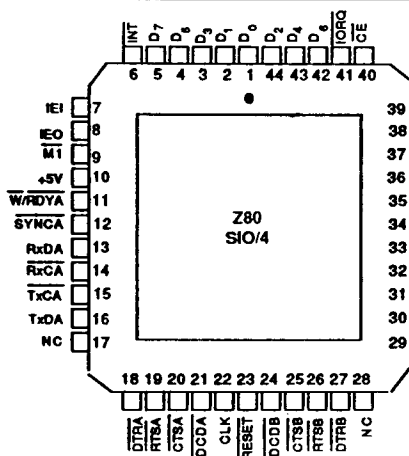

Figure 7a. 44-pin Chip Carrier, Pin Assignments
**The 44-pin package, the Z80 SIO/4 for PLCC package Z80 SIO/3 for LQFP, has all options (Figure 7a and 7b).**